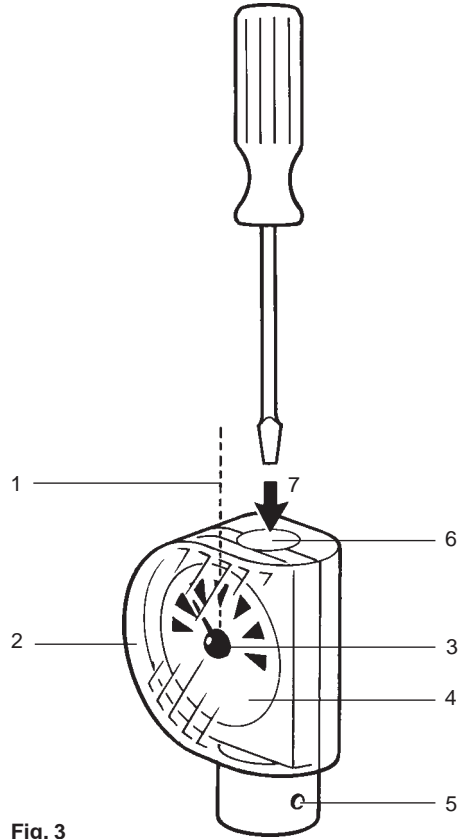
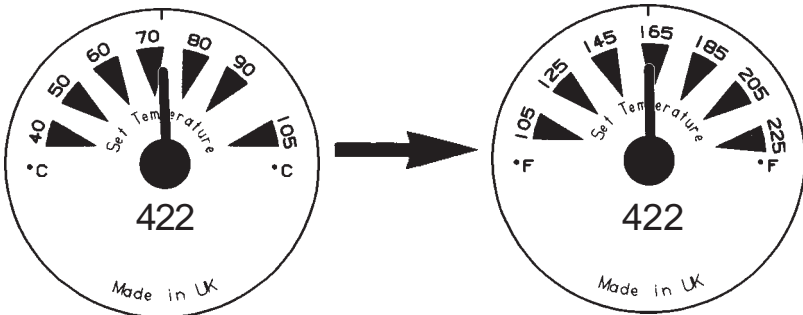
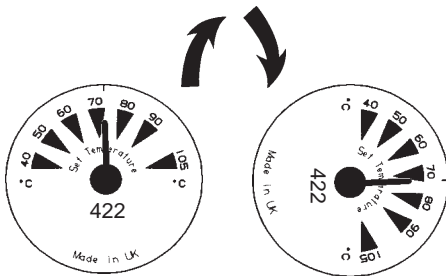
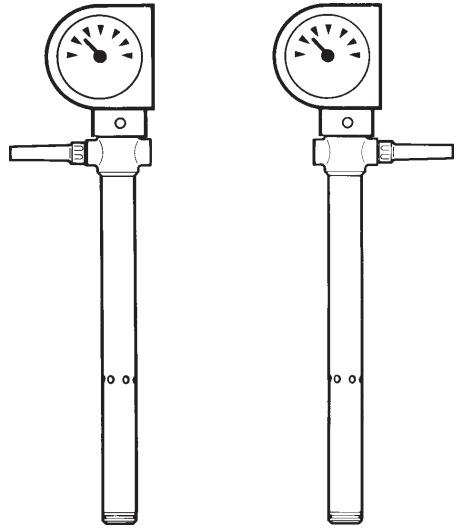

Fig. 3
Fig. 4
Fig. 5
Fig. 6
1. Selection of °C or °F (See Fig. 4)
2. Rotation of temperature scale (See Fig. 5)
For the following instructions you should make reference to **Figure 3 and Figure 4**.
1. Remove tamper proof plug (Fig 3, Item 6) and use a suitable screwdriver to set indicator (Fig 3, Item 3) to midway mark (Fig 3, Item 1)
2. Remove transparent cover (Fig 3, Item 2)
3. Remove temperature indicator (Fig 3, Item 3)
4. Remove temperature indicator scale (Fig 3, Item 4) and select °C or °F (Double sided) as required (Fig 4) and replace.
5. Replace indicator to the midway position (Fig 3, Item 1)
6. Replace transparent cover. (Fig 3, Item 2)
In some instances it may be necessary to rotate the scale so the set temperature may be more easily read. In such cases the following procedure should be adopted and references made to **Figure 3** and **Figure 5**.
1. Remove tamper proof plug (Fig 3, Item 6) and use a suitable screwdriver to set indicator (Fig 3, Item 3) to midway point (Fig 3, Item 1)
3. Remove indicator (Fig 3, Item 3)
4. Remove the scale (Fig 3, Item 4) from the indicator and relocate to desired position.
5. Replace indicator (Fig 3, Item 3) to the midway point of the scale. (Fig 3, Item 1)
The dial head itself may be rotated through 180° if necessary. In such cases the following procedure should be adopted and reference made to **Figure 3** and **Figure 6**.
4. Remove dial head retaining screws (Fig 3, Item 5)
6. Replace dial head retaining screws. (Fig 3, Item 5)
For the following instructions you should make reference to **Figure 3**. The sensor is despatched with its adjustment set to the highest limit and should be set on site to the midway mark (Fig 3, Item 1). To make any adjustments to suit individual requirements a suitably sized screwdriver is engaged in the adjustment drive (Fig 3, Item 7) on the end of the indicator dial. Turning clockwise will lower the temperature, anticlockwise will increase it. After setting the plant to work, compare the thermometer reading with the scale reading on the temperature control reading. This may be found to differ by a few degrees, if precise control is required it can be adjusted by resetting the scale as follows:-
1. Remove the transparent front cover (Fig 3, Item 2) of the indicator head and turn the indicator manually (Fig 3, Item 3) until it corresponds to the actual temperature.
2. Replace transparent cover (Fig 3 Item 2)